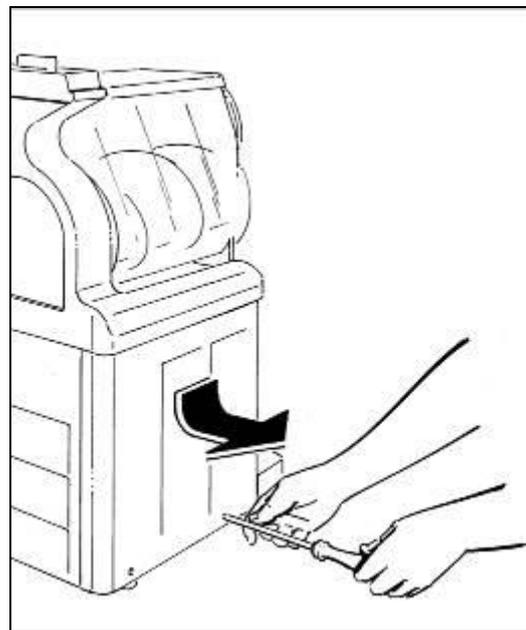

Fig. 46
- GT2 machine: remove the left side panel by unscrewing the two bolts fastening it (fig.46);